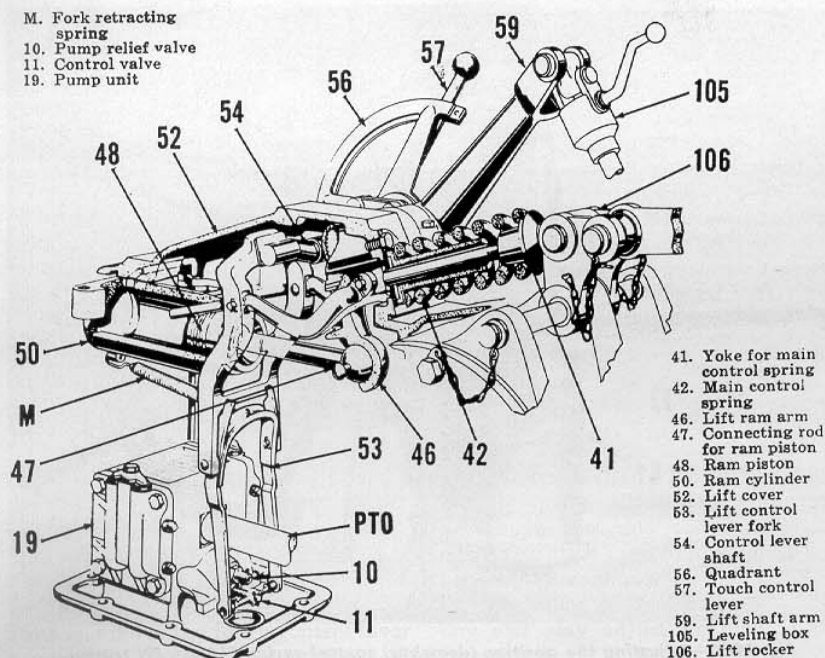

Fig. FO84—Phantom view of hydraulic system lift cover and pump as used on models 2N and 9N.
Although all of the Ford models utilize main assemblies of basically similar appearance, the hydraulic system as used on the 2N and 9N performs differently and has different adjustments than the system used on the 8N. Main differences are in the valving which in the 2N and 9N provides automatic draft control whereas on the 8N the system has automatic draft control and automatic implement position (also called "automatic follow up") control. Each system is easily identified by the appearance of the lift cover assembly which if it is for an 8N tractor has a position control lever (62—Fig. FO78) and a touch control lever (57), whereas for the 2N and 9N the cover has only the touch control lever as shown at (57) in Fig. FO84.